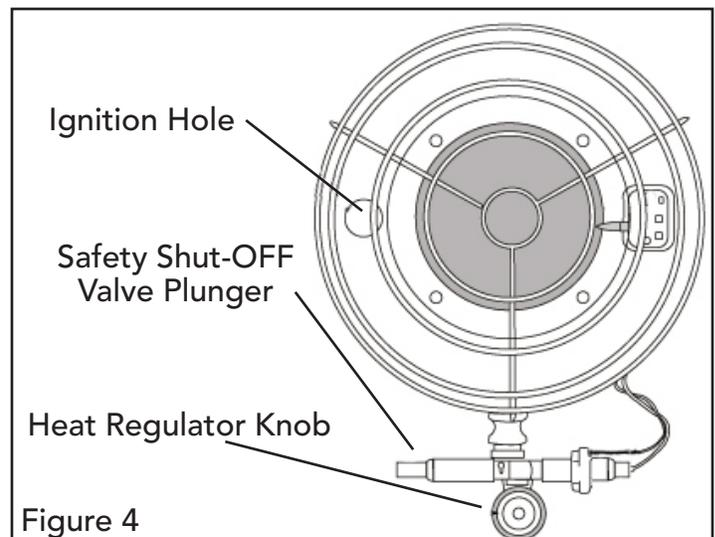

Figure 4
6. Insert a lit match into the ignition hole in the reflector. (See Figure 4)
7. Press the safety shut-off valve plunger for five (5) seconds.